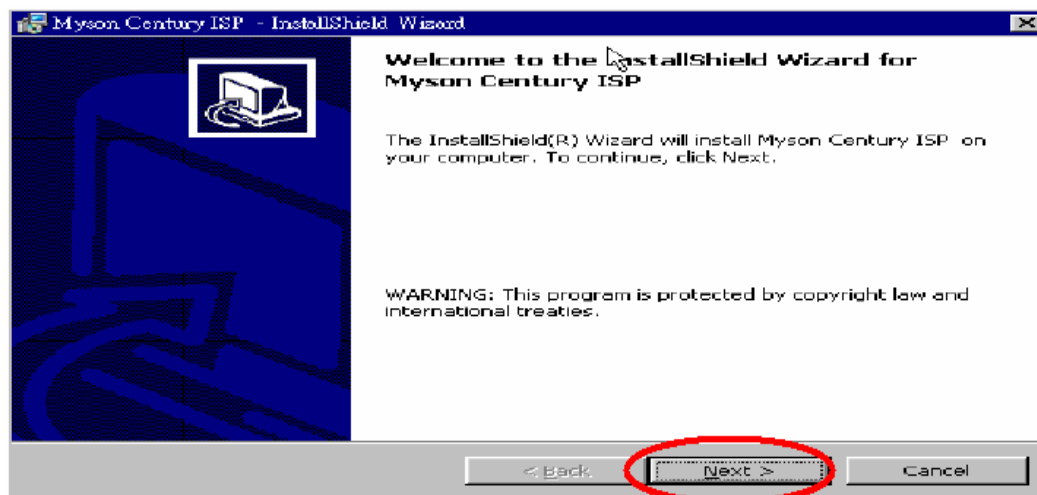

Fig 2.3
2.3 Press “Next” button to continue., see Fig 2.3